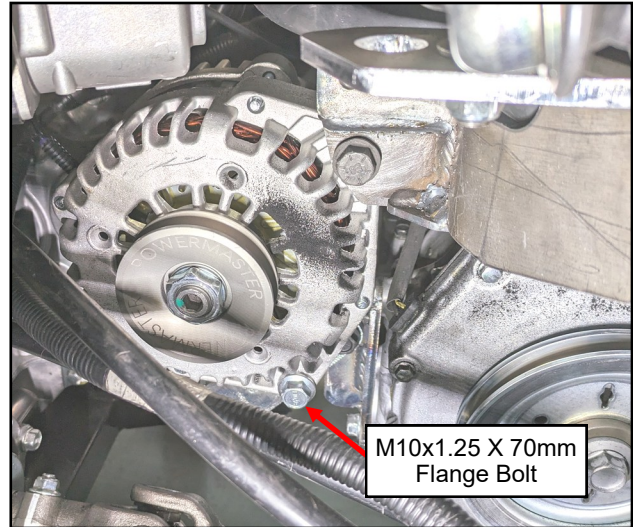

Fig. 3.8 (Install Lower Alternator Bolt)
- 3.8** Rotate the tensioner up enough to install the lower alternator bolt. See figure 3.8. The M8 tensioning bolt might need to be adjusted, and the alternator might need to be rotated, to get everything lined up. **Note:** Do not fully tighten hardware.